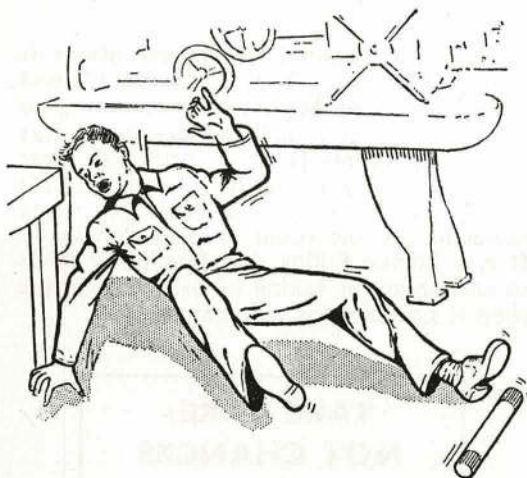

Fig. 2. WILL THIS BE YOU!
3. The floor of a machine shop should be kept free from oil, grease or any objects, such as pieces of round section metal, which could cause a person to lose his balance and injure himself either by the fall or by contact with machinery (Fig. 2).